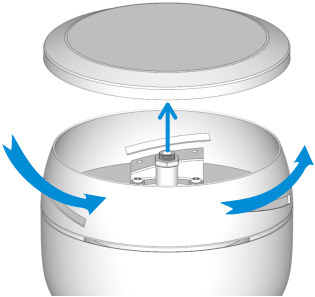

Fig. 1.1
1.1 Take the motor assembly out of the packaging. Rotate the decorative cover counterclockwise and take it out, as shown in Fig.1.1.